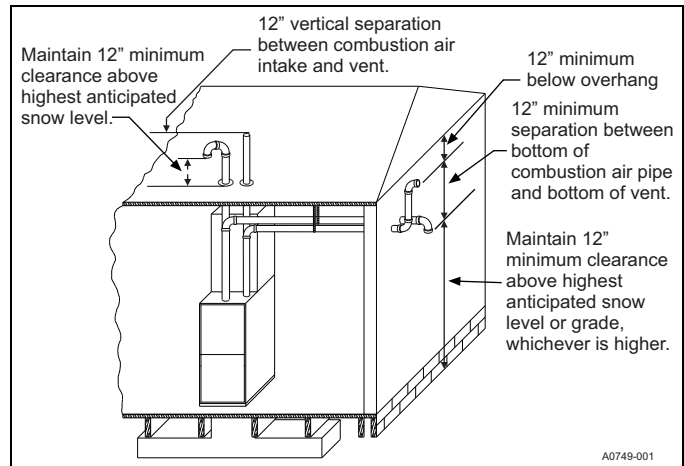

Figure 30: Termination configuration - two pipe
7. Direct vent systems must be installed so the vent and the combustion air pipes terminate in the same atmospheric zone. See Figures 30 or 31.